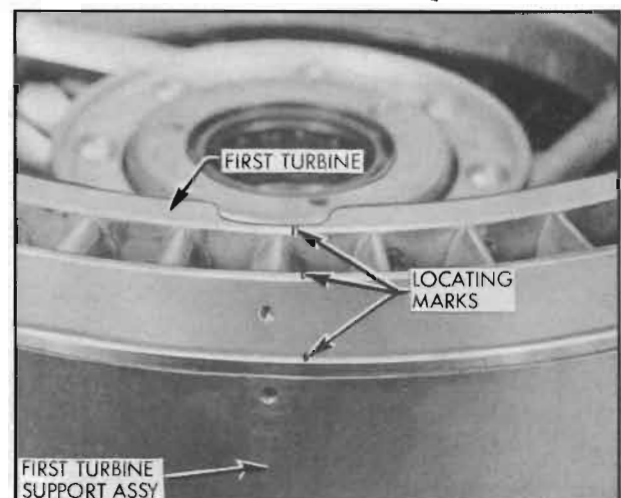

Figure 5-63—Positioning First Turbine on First Turbine Support
14. Place first turbine in position on turbine support paying particular attention that the turbine is assembled in its original position as the turbine and support are balanced as an assembly. See Figure 5-63.
3. Remove reverse and low servo piston spring seats, springs and pistons. Remove check ball from reverse servo feed channel. See figure 5-63.